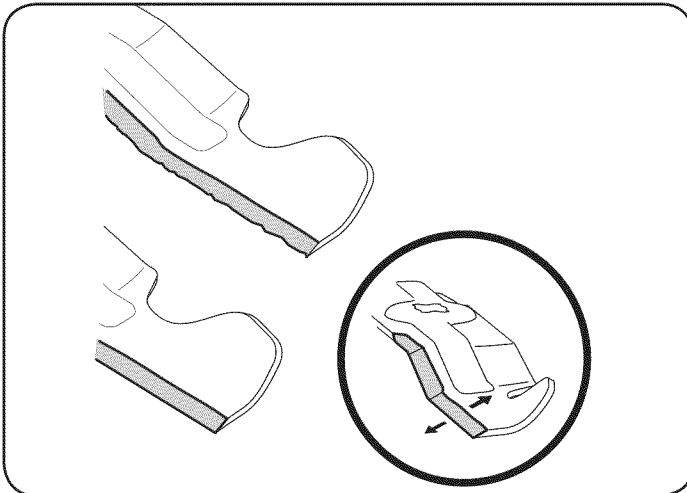

Figure 38
4. To properly sharpen the cutting blades, remove equal amounts of metal from both ends of the blades along the cutting edges, parallel to the trailing edge, at a 25°- to 30° angle. Always grind each cutting blade edge equally to maintain proper blade balance. See Fig. 38.